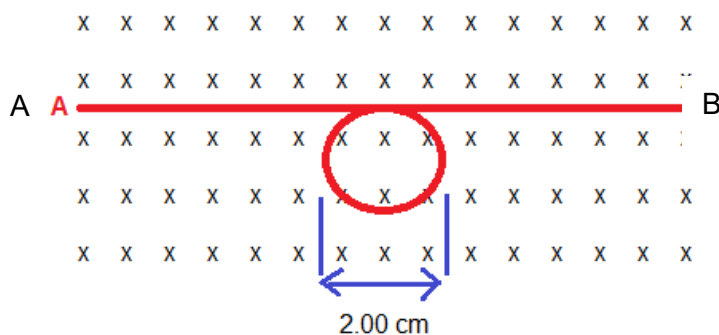

Fig. 5.2
- (b) The magnetic field shown in Fig. 5.2 below has a uniform magnitude of 25.0 mT directed into the paper. A long wire that forms a loop with an initial diameter of 2.00 cm is placed within the field.